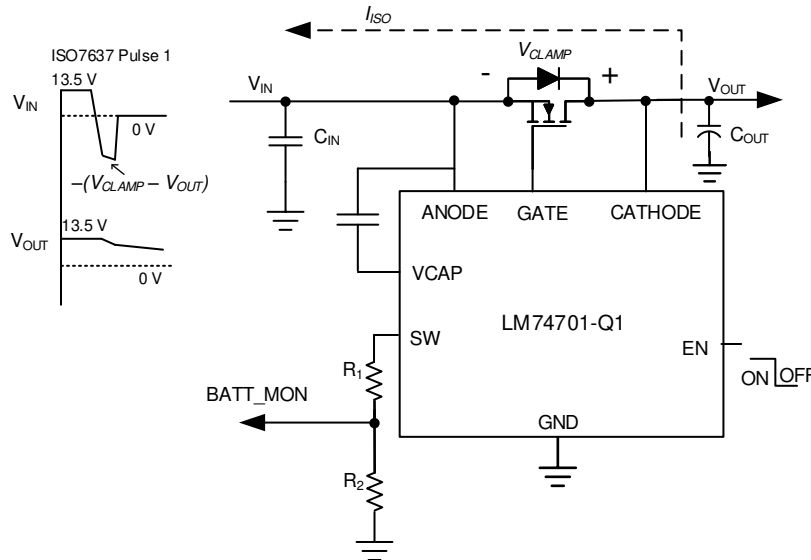

Figure 8-4. LM74701-Q1 Operation During VDS Clamp Mode
2. After the voltage across the drain and source of the MOSFET reaches  $V_{CLAMP}$  level (34-V minimum), GATE is turned ON back in the saturation region, operating external MOSFET as an active clamp and dissipates the ISO7637 pulse 1 energy. The typical circuit operation of LM74701-Q1 during ISO7637 pulse 1 is shown in Figure 8-4.